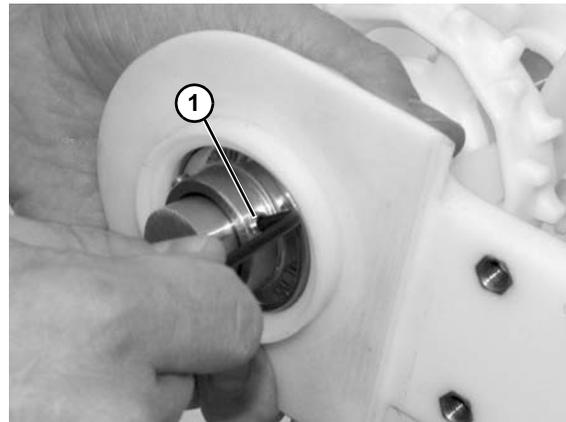

Figure 48
6. Loosen set screws (Figure 48, item 1).